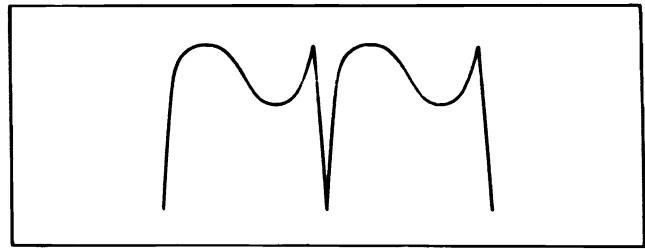

Figure 4
- 4—Adjust the front slug (on tube side of chassis) of T8-1 until the waveform shown in figure 4 is obtained. The rounded peak and the sharp peak of the waveform must be exactly the same height.